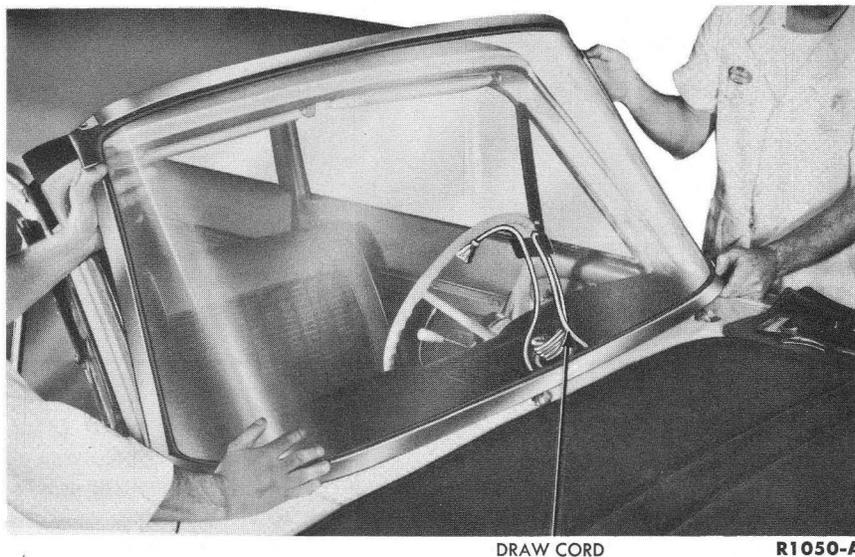

FIG. 16—Windshield Installation
11. Install the windshield assembly (Fig. 16), using the draw cord to pull the weatherstrip over the